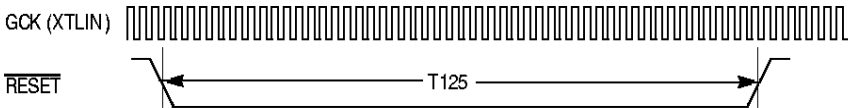

Figure 9-2 Timing Diagram - $\overline{\text{RESET}}$
- Figure 9-2, Timing Diagram - $\overline{\text{RESET}}$